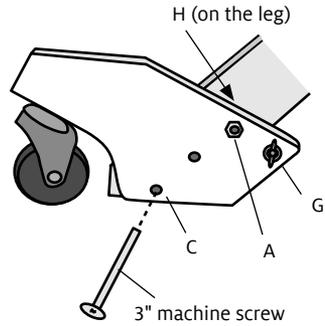

FIGURE 2
4. *Attach the top of each of the four casters to the loom legs.* Put a 2 1/4" carriage bolt through the hole (H) in the leg from the inside, then through the top hole (A) in the caster block. Tap the carriage bolt into the loom leg using a rubber mallet or hammer and a piece of scrap wood. Place a washer and a lock nut on the carriage bolt and tighten the lock nut enough to draw the head of the carriage bolt into the wood of the leg (figures 2 and 3). *Note: When installing the caster block on the right front leg, depress the brake release pedal, or undo the brake release cord from the pedal, to allow easier access to the hole (H).* Repeat for the other three caster blocks. If you detached the brake release cord from the pedal, reattach it.
5. *Attach the bolt to hold the front of the metal support bar when the loom is folded.* From the inside of the loom insert a 1 3/4" hex bolt through the hole (G) in the front caster block. Secure the hex bolt with a washer and a lock nut. Place a 1/4" wing nut on the bolt (figure 2). Repeat Step 5 for the other front caster block.
6. *Attach the metal support bar to the rear caster block.* From the inside of the loom insert a 1 1/2" hex bolt through the hole (G) in the rear caster block. Place a washer on the bolt and then place the circular hole at the end of the metal support